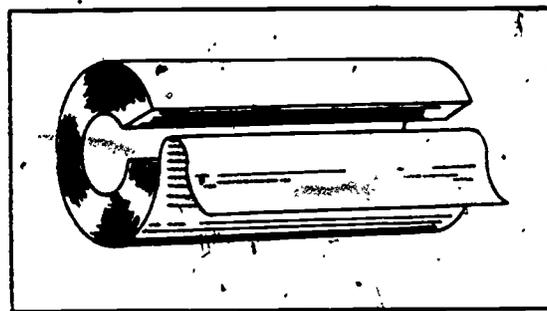

Figure 4-6. Fiberglas insulation.
f. Fiberglas. Fiberglas pipe insulation, shown in figure 4-6, is composed of very fine glass fibers bound and formed together by an inactive resin type mixture. It is formed into a flexible hollow cylinder, and slit along its length to permit application to pipes or tubing. Fiberglas insulation is also shaped to fit small boilers and hot water heaters. It is furnished in 3-foot lengths with or without jackets. The insulation comes in thicknesses from 1/2 to 2 inches and will accommodate pipes from 1/2 to 30 inches. Fiberglas insulation has long life; it will not shrink, swell, rot, or burn. It is easily applied, light in weight, space saving, and has excellent insulating qualities.